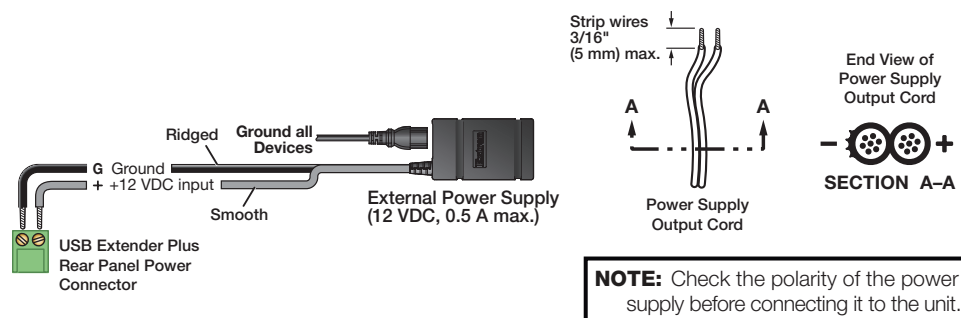

Figure 10. Wiring the Power Connectors for the AAP and Decorator-Style Models
- **AAP and Decorator-Style models** — These models have green insertion type 2-pole captive screw connectors on their rear panels. The power supply cables are terminated with bare wire. Insert the wires directly into the rear panel captive screw connector, as shown in figure 10.